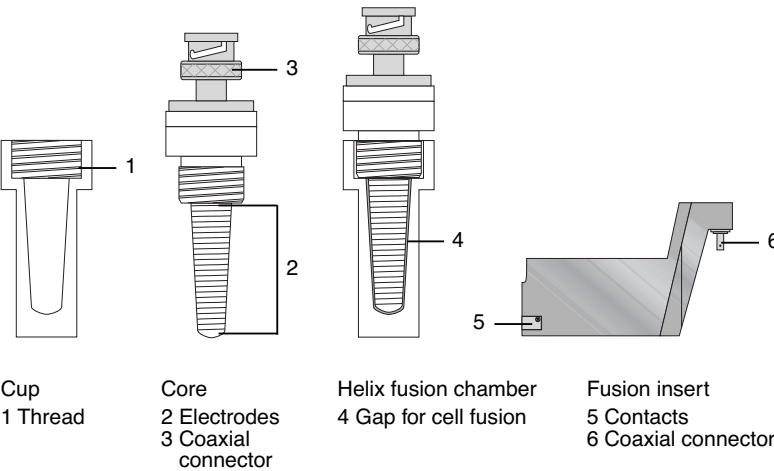

Fig. 8: Schematic representation of the Helix fusion chamber and the fusion insert
The Helix fusion chamber (see fig. 8) consists of a cup (1) and a core with parallel wound platinum wires, which are the electrodes (2). They are wound around the core as a double helix. Both parts are screwed together. The gap (4) between the cup and the core has a filling volume of 250 μ l.